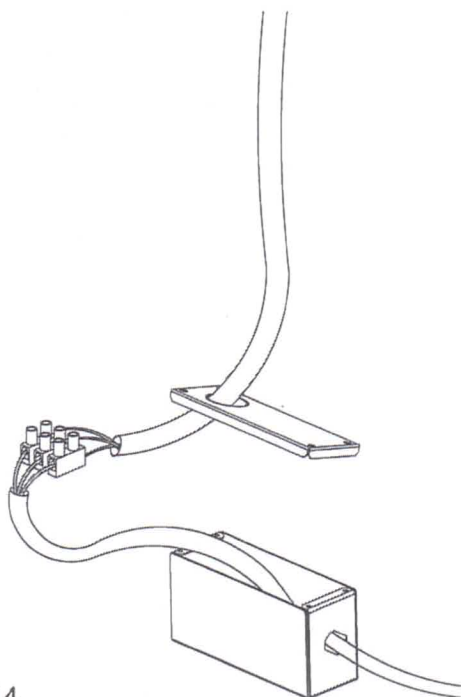

fig. 14
**CAUTION:** Make sure the power is turned off at source. Make electrical connections (refer to Figure 14). Ensure that the plastic flaps at the exhaust outlet of the fan move freely and have not become jammed or stuck.